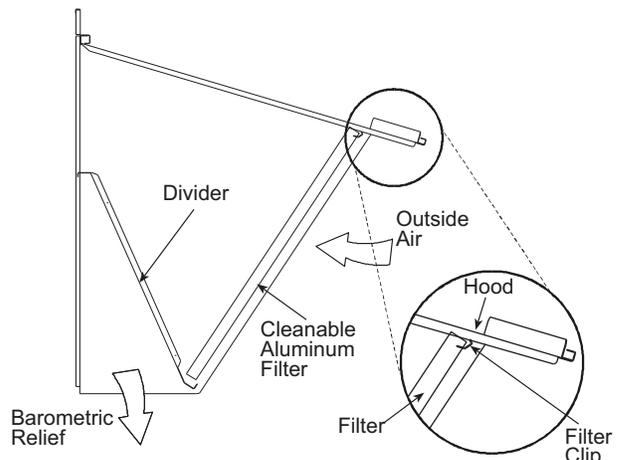

Fig. 22 – Economizer Filter Installation
6. Open the filter clips which are located underneath the hood top. Insert the aluminum filters into the bottom filter rack (hood divider). Push the filter into position past the open filter clips. Close the filter clips to lock the filters into place. See Fig. 22.